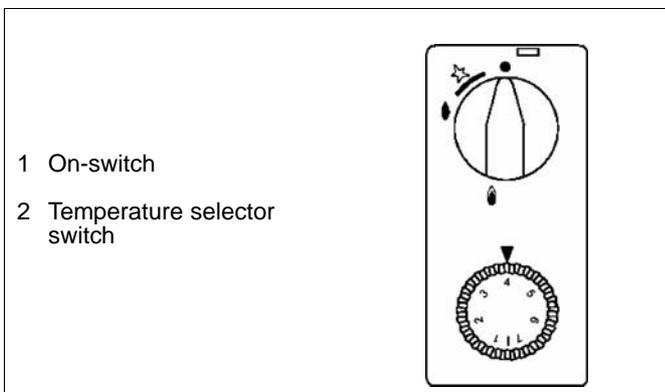

Fig. 11 Operating panel
- ⇒ Turn the On/Off switch (1 / Fig. 11) towards Ignition as far as the stop.
Ignition gas flows and, depending on the temperature selection switch (2 / Fig. 11), also the main gas.
The baking oven temperature can be adjusted by turning the temperature selection switch (2 / Fig. 11).
- ⇒ Turn the On/Off switch (1 / Fig. 11) to the right as far as the stop. In this position only the ignition gas burns.
Turning the temperature selection switch (2 / Fig. 11) anti-clockwise causes the main burner to ignite automatically. The oven temperature can be set steplessly and is regulated thermostatically. The rotary switch has a scale from 1 to 7. In the steady state the various scale numbers correspond approximately to the following oven temperatures:
- ⇒ The oven should be heated at 410°F (210°C) for 1 hour with the door closed (temperature selection switch (2 / Fig. 11) at position 4).